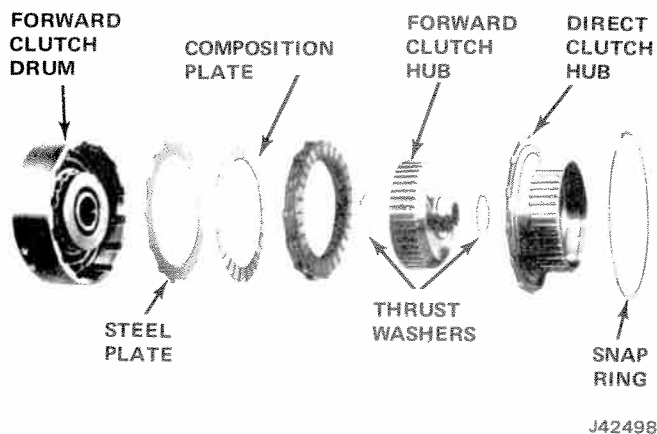

Fig. 7-68 Forward Clutch Assembly
(10) Oil and install four composition, three flat steel, and one waved steel clutch plate (plate with U-notches) in clutch housing; install waved steel plate first, then install alternately composition plates and steel plates (figs. 7-68, -69).